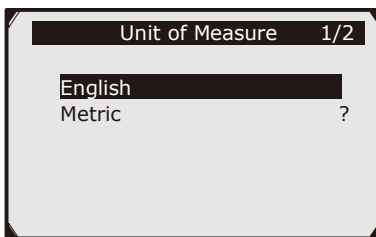

Figure 3.6
2. From **Unit of Measure** screen, use the **Up/Down** scroll button to select the desired unit of measurement. (**See Figure 3.6**)